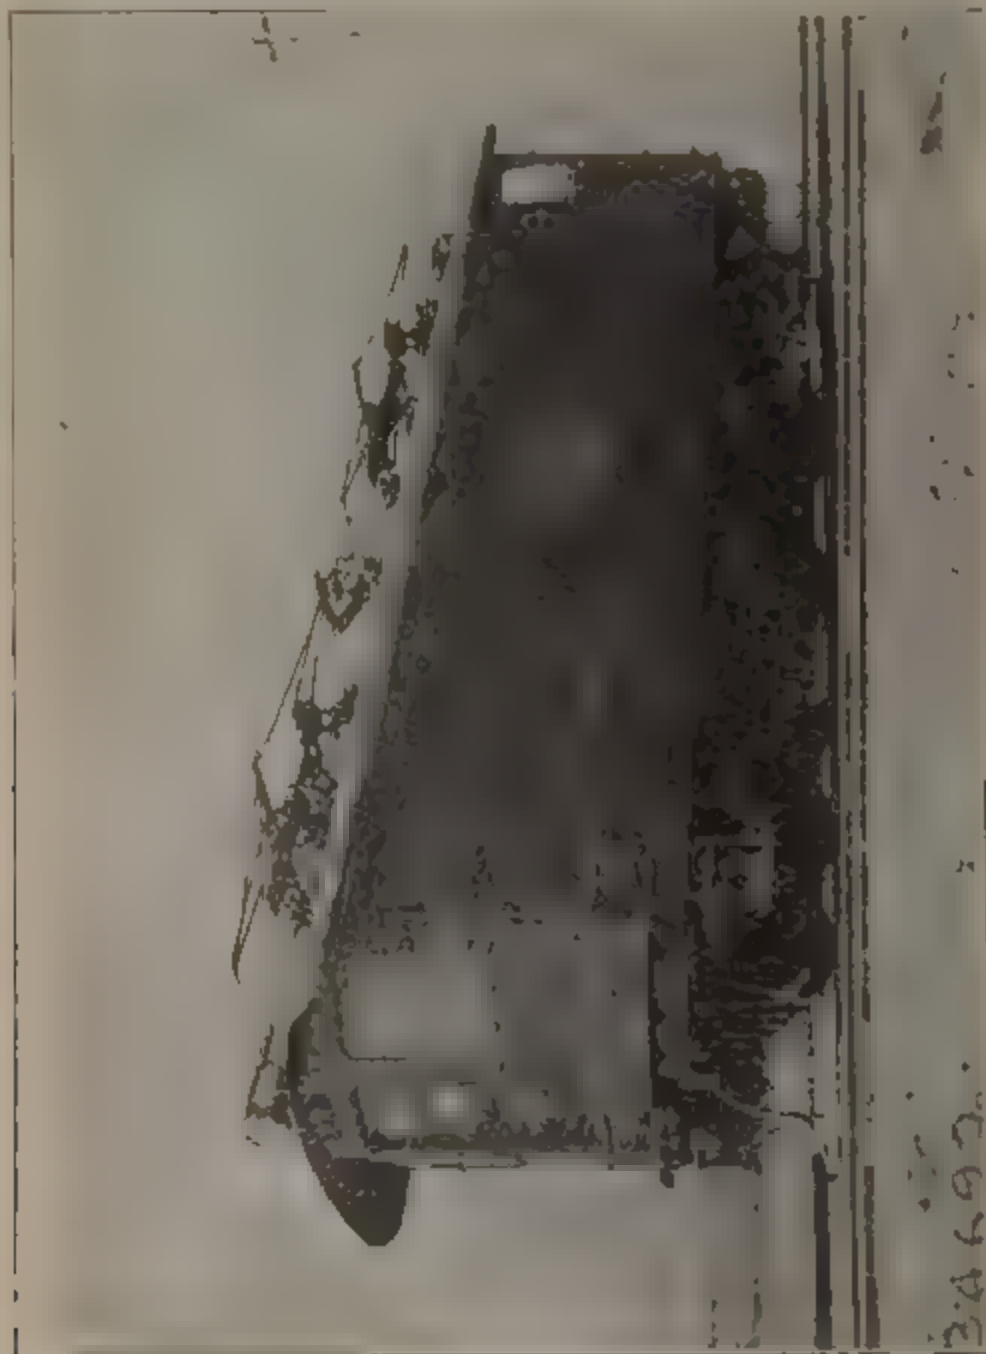
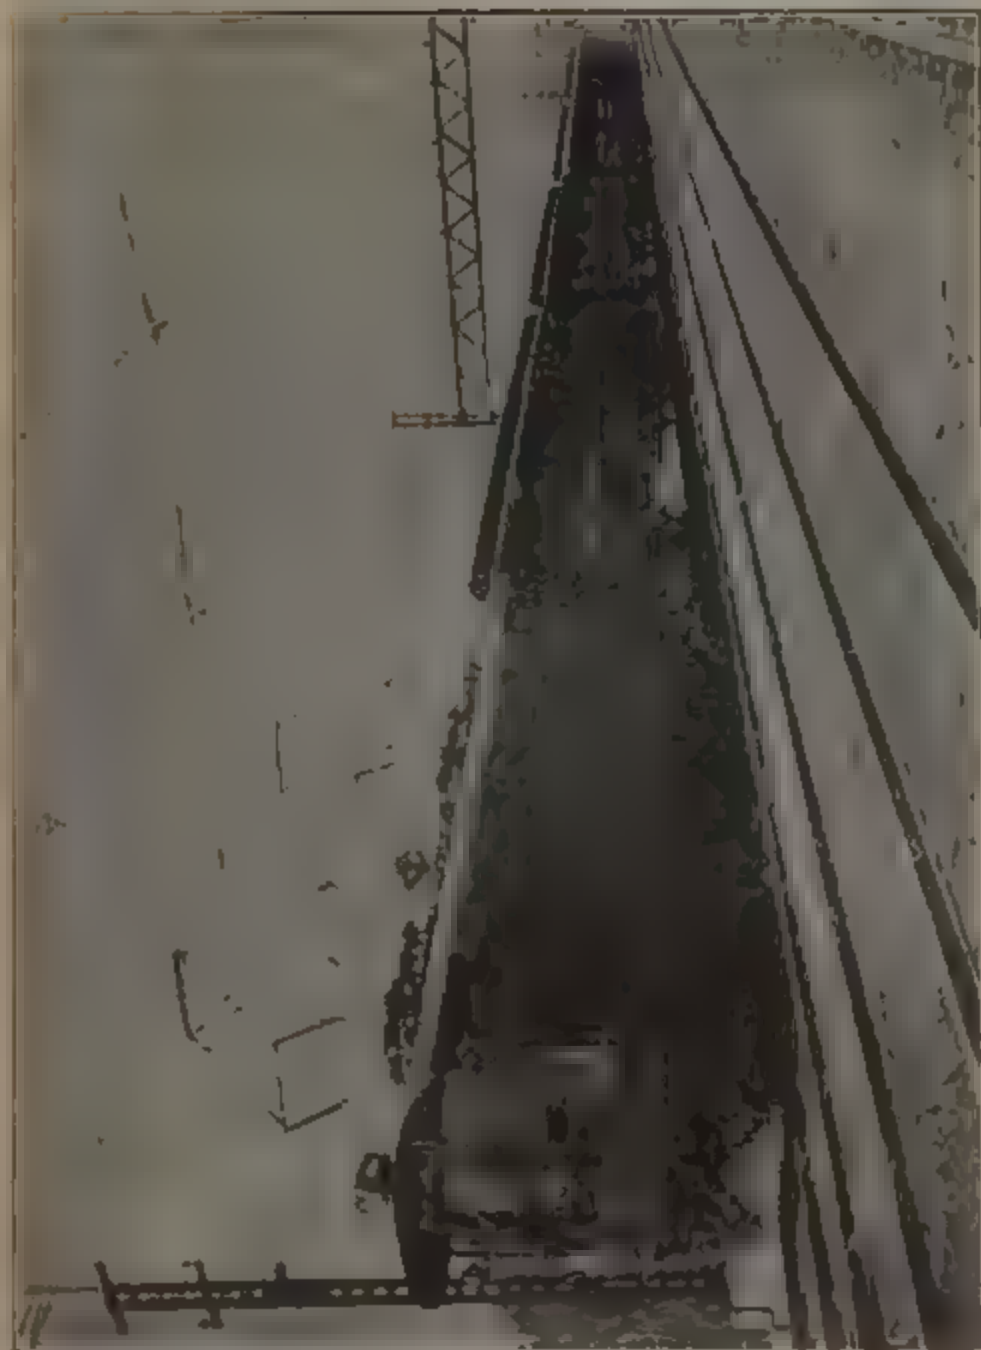

FIG. 413 New Haven Locomotive in B C Zone A C Trolley-Down Third Rail Shoe Down.
FIG. 415. New Haven Trald.
■ Fig. 413 is shown a locomotive standing in D. C. zone with both trolleys and shoes down; when standing in C. zone, as in Fig. 414, both trolleys and shoes are up. In Fig. 415 is shown a regular New Haven train.